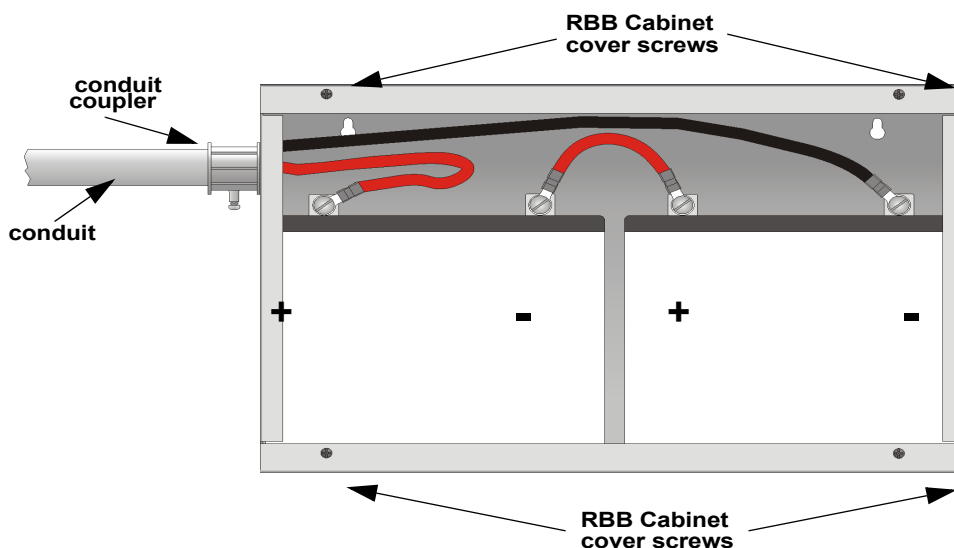

Figure 4.7 Battery Connections in the RBB Cabinet
3. Run extended battery cable from control panel cabinet through conduit to RBB cabinet. See Figure 4.7.
NOTE: Figure 4.7 is an example of how the wire connections can be routed. However, any other cabinet knock-outs (on either the main control panel or the RBB cabinet), that are not previously being used may be utilized to connect conduit between the two cabinets.
4. Connect the battery leads to the backup battery terminals. See Figure 4.7. Observe the proper polarity to prevent damage to the batteries or the control panel.
5. Insert the RBB cover screws into the cover mounting holes (see Figure 4.7). Screw the cover screw 3/4 of the way into the cover mounting hole.